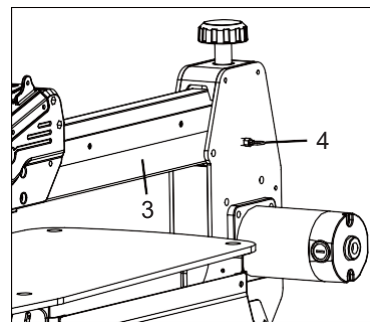

FIGURE 7
3. Gently lift the upper arm (Fig. 7, 3) of the saw.
6. Pull the ring pin (Fig. 7, 4) outward, lower the upper arm. This will lock the upper arm in place. Gently press on the upper arm to make sure it is locked in place.